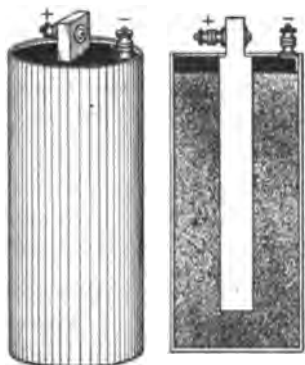

Fig. 36. Typical Dry Battery
**Batteries.** The only other method known for generating a continuous, direct current is by means of chemical reactions in what are known as primary cells. With the exception of the so-called *dry cell*, a description of these and their workings could be of only historic interest and is accordingly omitted here. As no chemical reaction could take place in perfectly dry substances this part of the name is used simply to distinguish such cells from those using a liquid solution. The dry cell is a zinc-carbon couple, Fig. 36, the zinc acting as the container while the carbon is a heavy rod packed in manganese dioxide, together with some moisture-absorbing material. On the contents of the zinc container as thus filled is poured a solution of sal ammoniac and water which forms the active solution